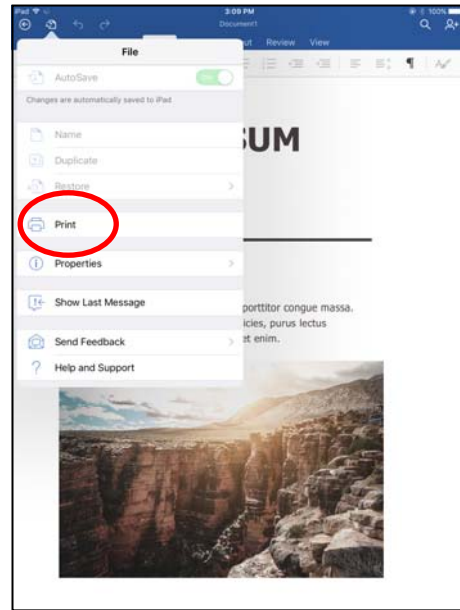

Figure 40
2.4 When the menu pops up, click “Print”, as shown in Figure 40.